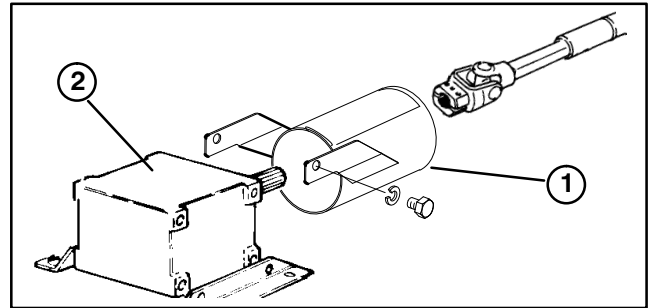

Figure 6
(Fig. 6)
1. Remove (2) capscrews and lockwashers securing PTO guard mounting brackets to gearbox (Fig. 6) . Retain fasteners for re-installation.
2. Slide PTO shaft guard onto PTO shaft, positioning guard as shown in figure 6.